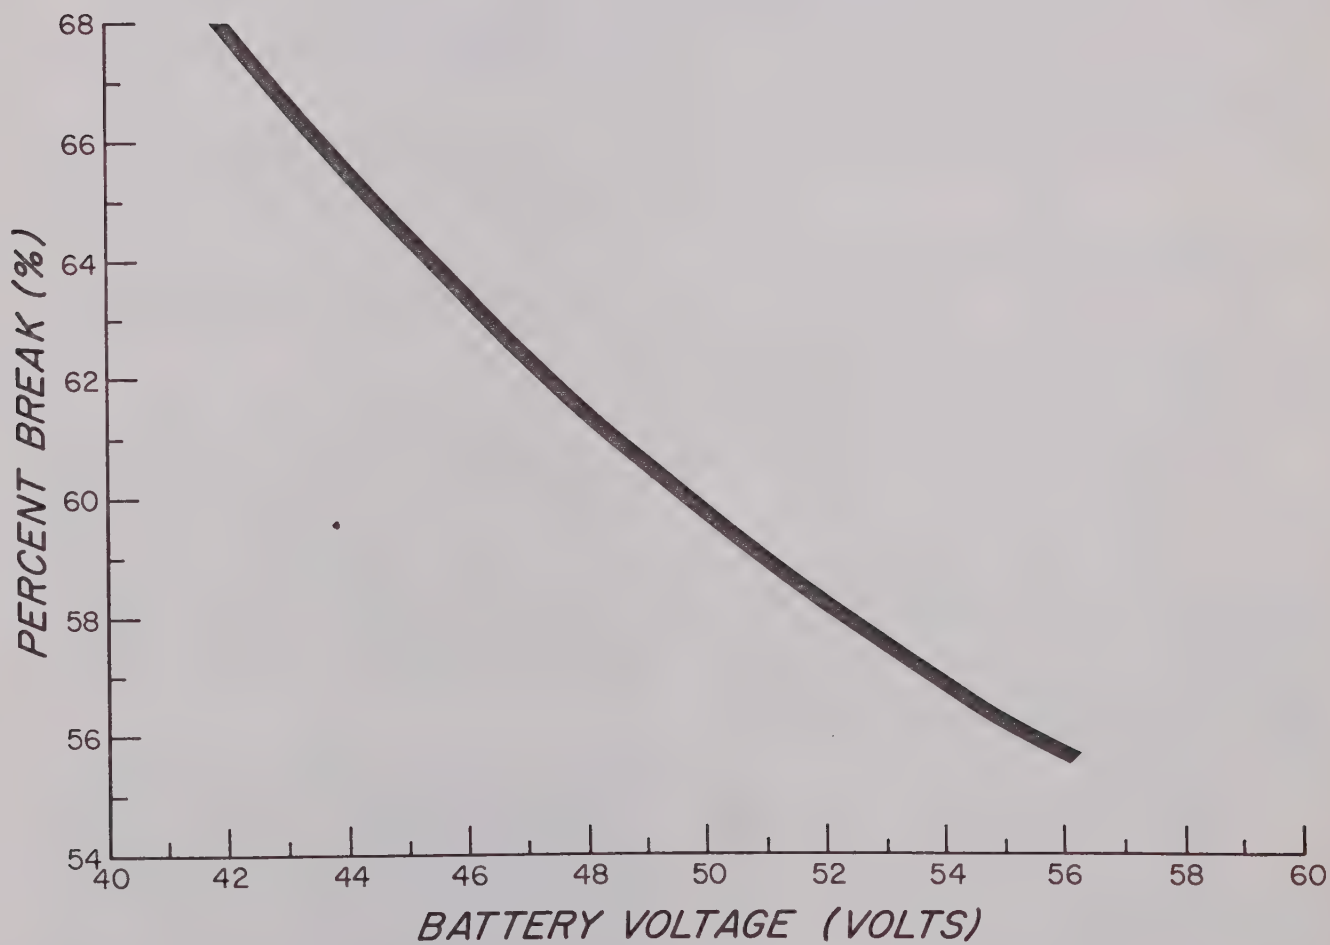

Figure 4-2. "Percent Break Versus Battery Voltage For A-Relay"
*When pulsed at 60% break and 12 pps use line leak A, 49 ± 0.2 Vdc power supply and $1.2 \text{ k}\Omega$ of loop resistance. Adjust spring tension until acceptable results are obtained. See Figure 4-2.